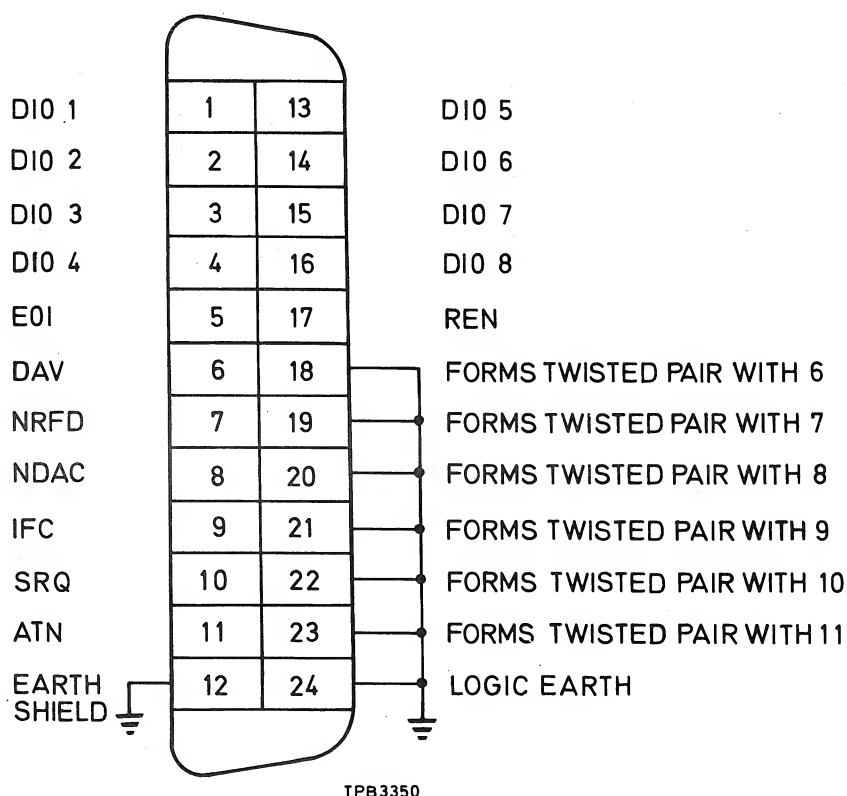

Fig. 6 GPIB connector contact assignments
52. The contact assignment of the GPIB cable connector and the device connector is as shown in Fig. 6 below.